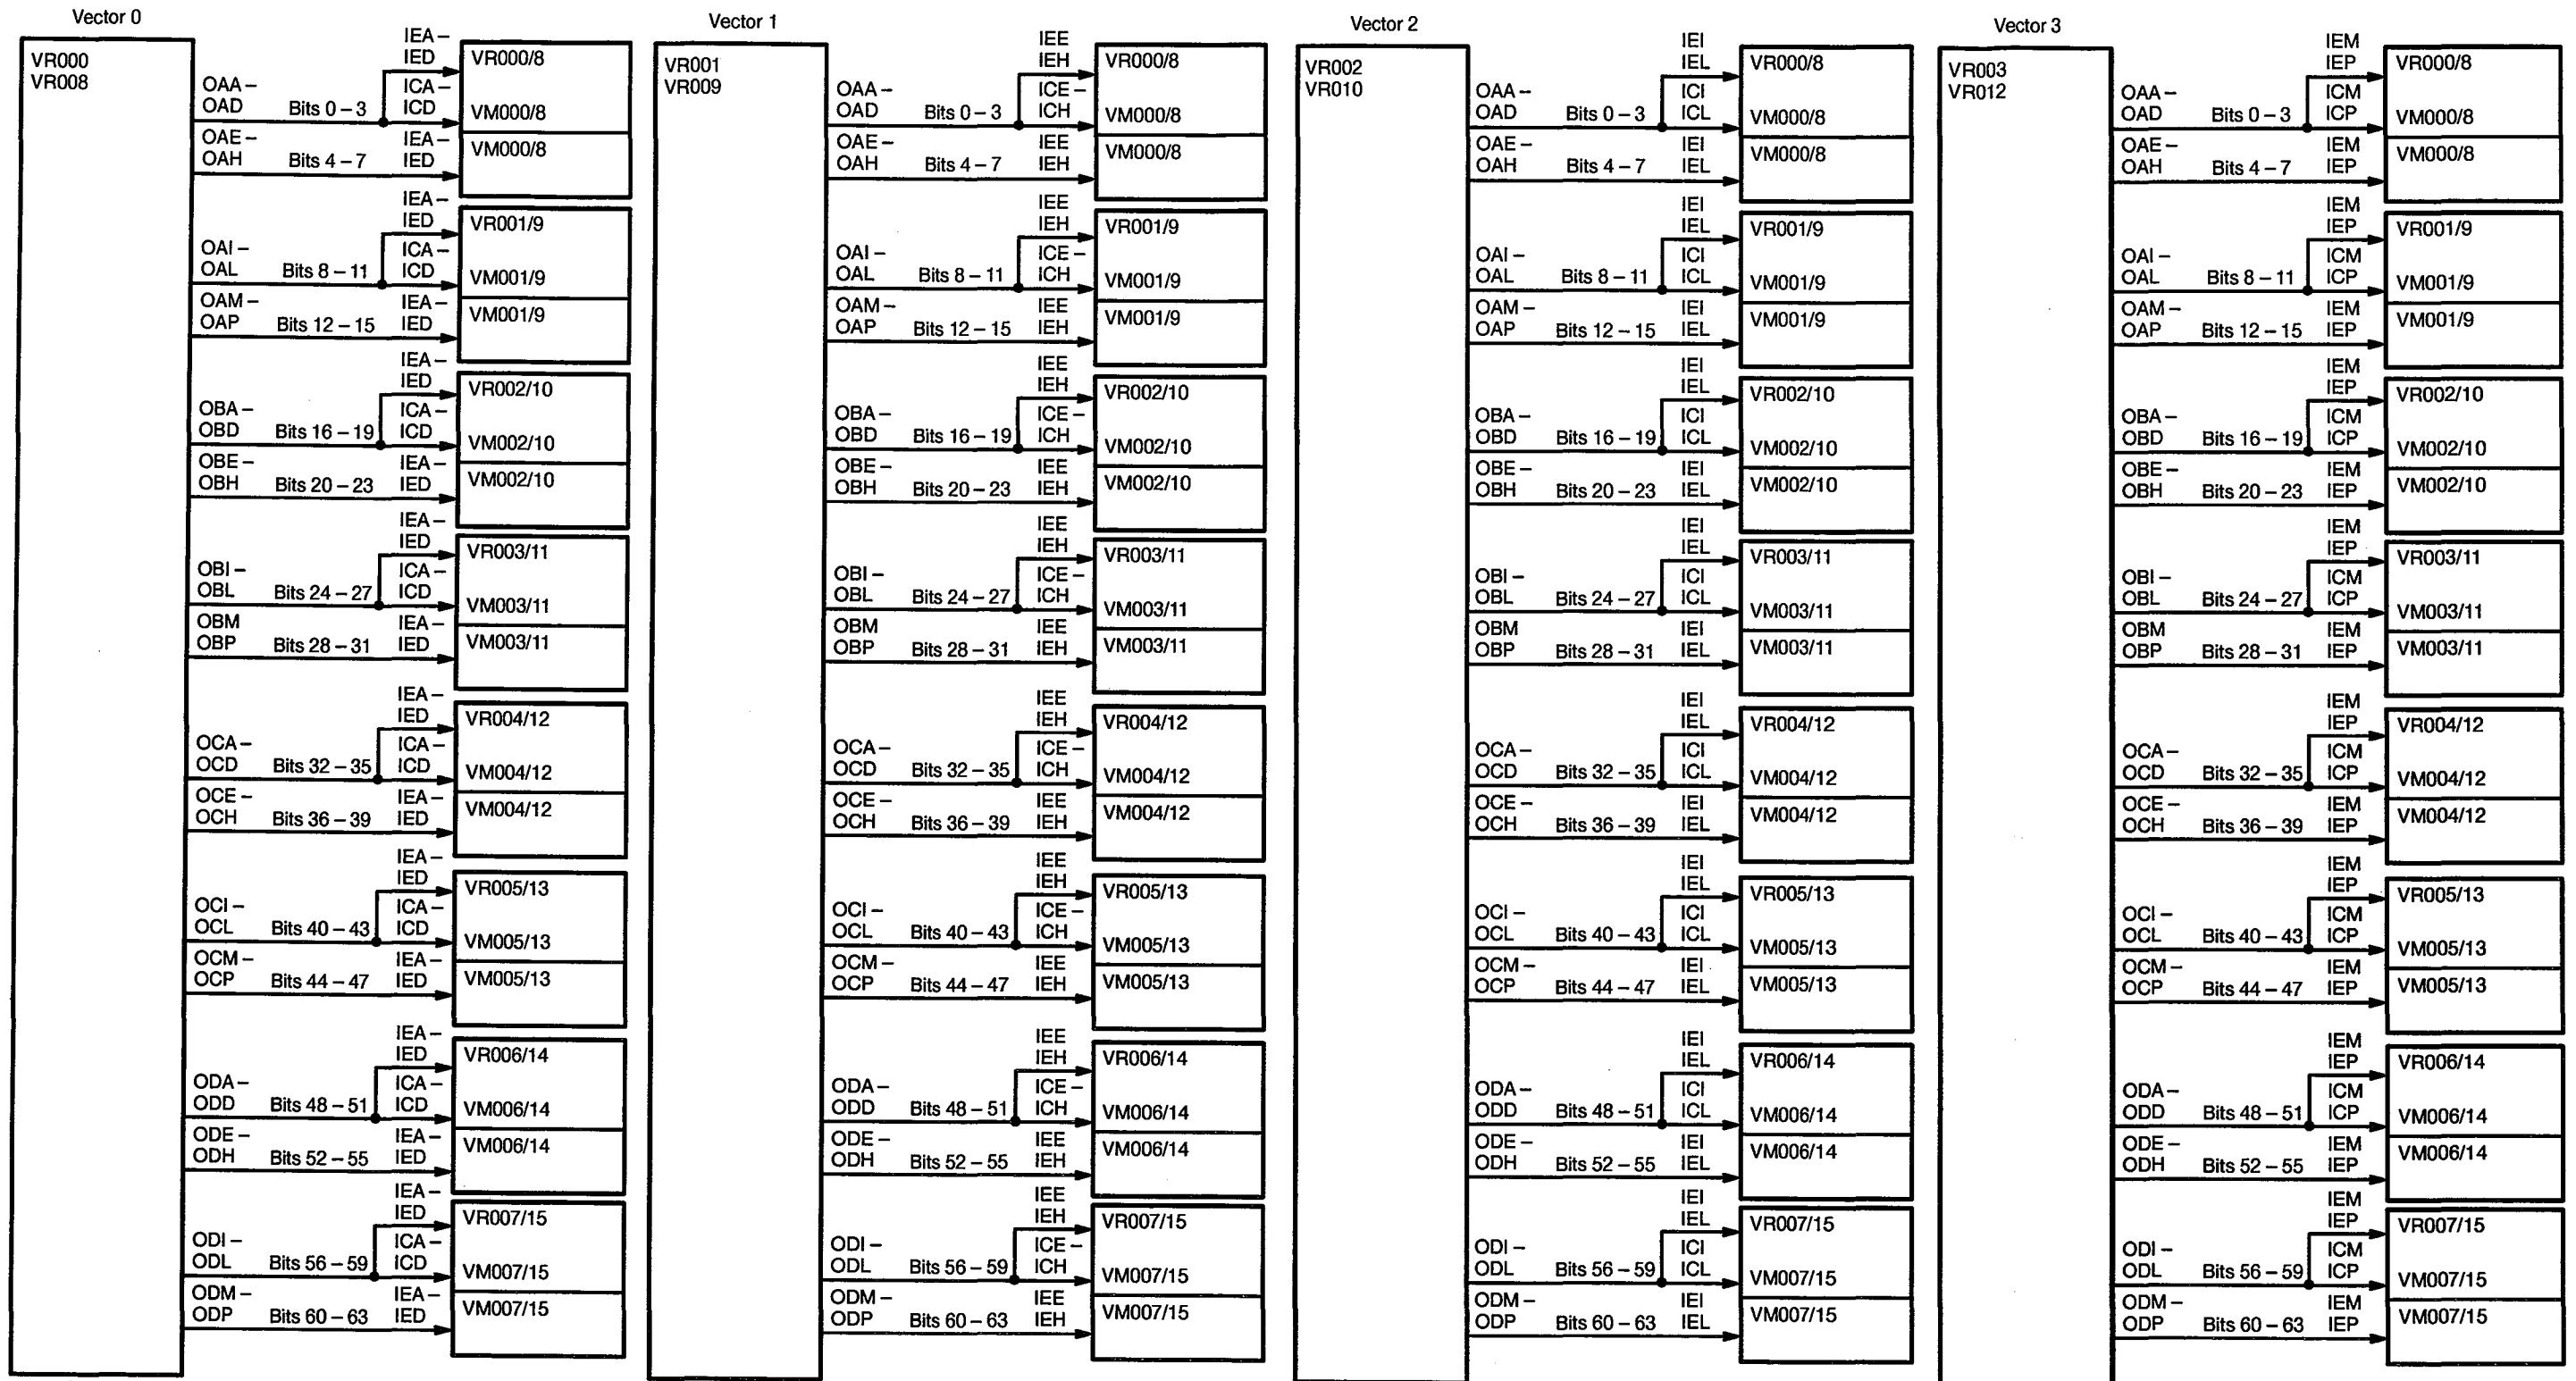

Figure 39. Vectors 0 through 3 Pipe 0/1 Read Data Path
- Figure 39 – vectors 0 through 3 pipe 0/1 read data path